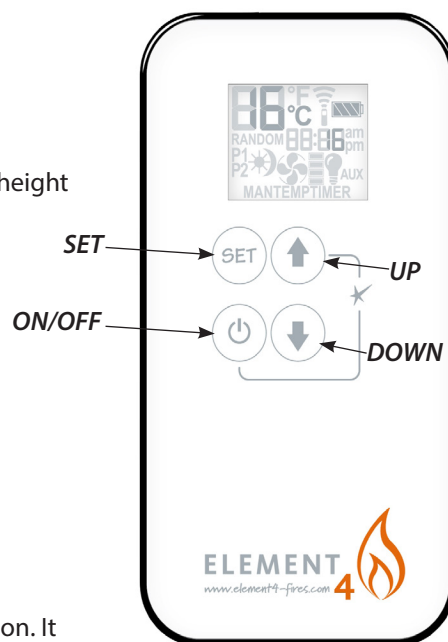

Figure 38 Remote Control
6. Place the three AAA batteries into the remote control and confirm that it will communicate with the receiver by pressing the **ON/OFF**. (See Figure 38) If necessary pair the remote and receiver.